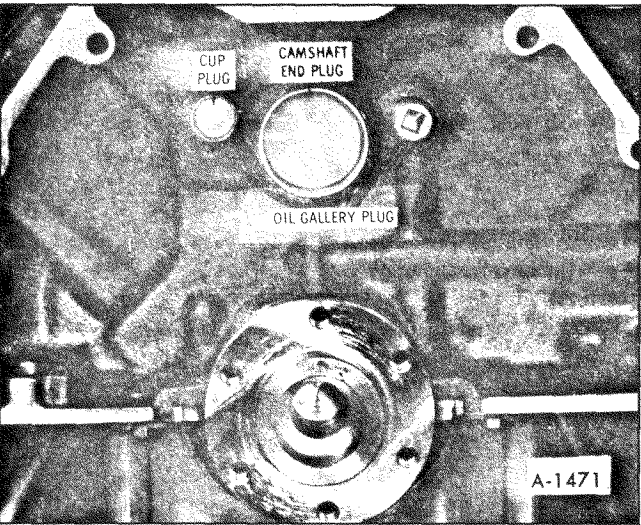

Figure 60—Camshaft and Oil Galley Plug
3. When removing No. 5 drive out rear cup plug, located behind No. 5 camshaft bearing. See Figure 60.